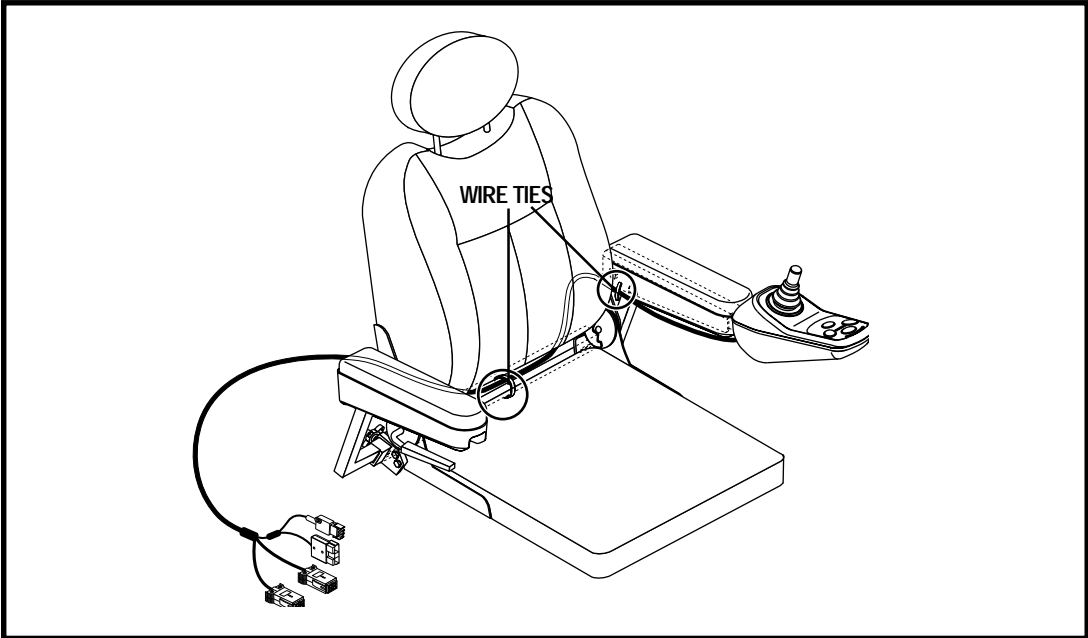

Figure 13. VSI Controller Routed on a High-Back Seat with Solid Seatpan
8. Secure the controller cable to the armrest receiver with wire ties (contour seat only). See figure 13.